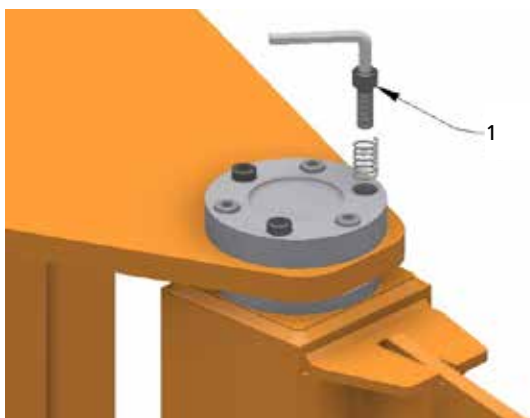

fig.82
1. Regulate the slidability of the rotation of the arm, using the braking system by means of the adjuster screws 1, until you obtain the required flexing sensitivity (fig. 82).